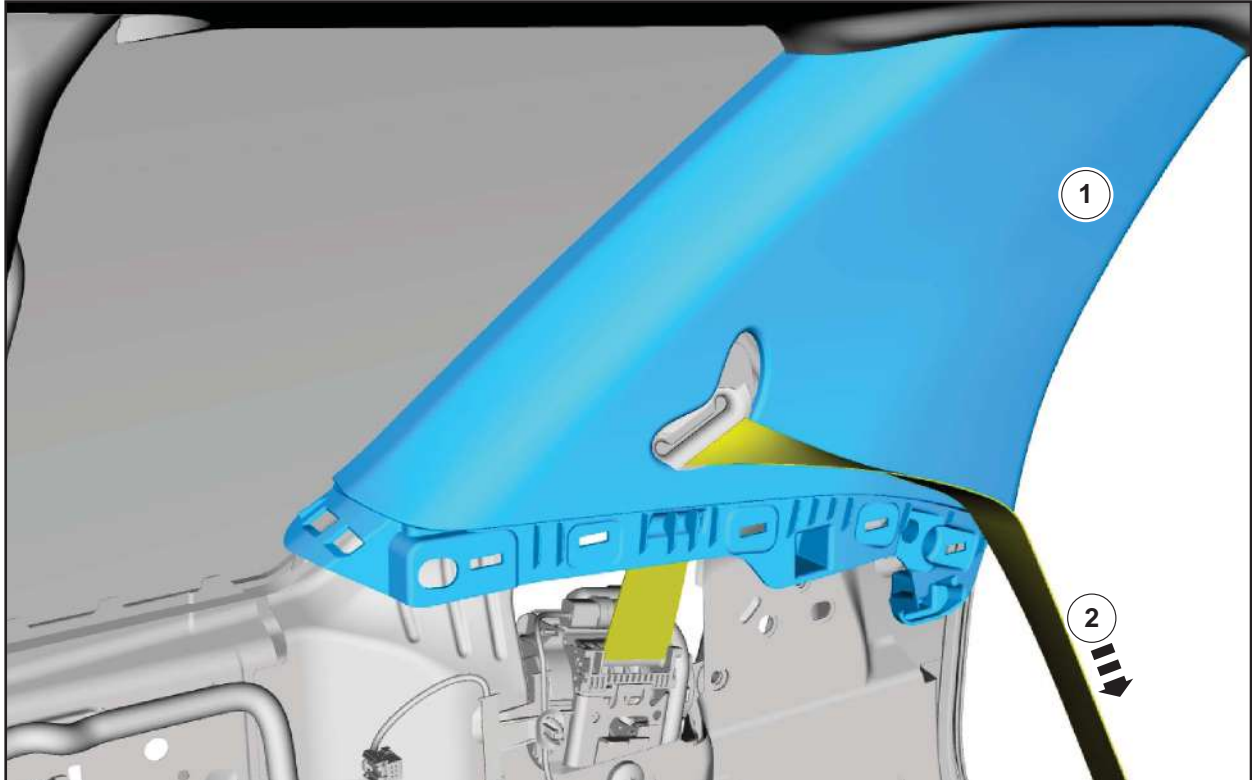

FIGURE 28
28. Position aside the LH C-pillar trim panel. See Figure 28.